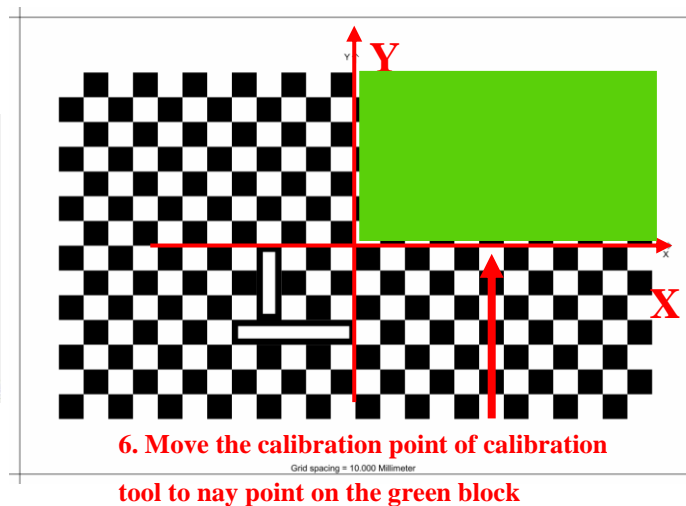

Figure 6-10 Teaching base coordinate XY plane first quadrant point
5. As shown in Figure 6-10, move the robot arm to move the calibration point of the calibration tool to any point on the green block and confirm that the calibration point does touch the calibration plate. Record this point by pressing the "Measure" button. Record this point by pressing the "Measure" button.